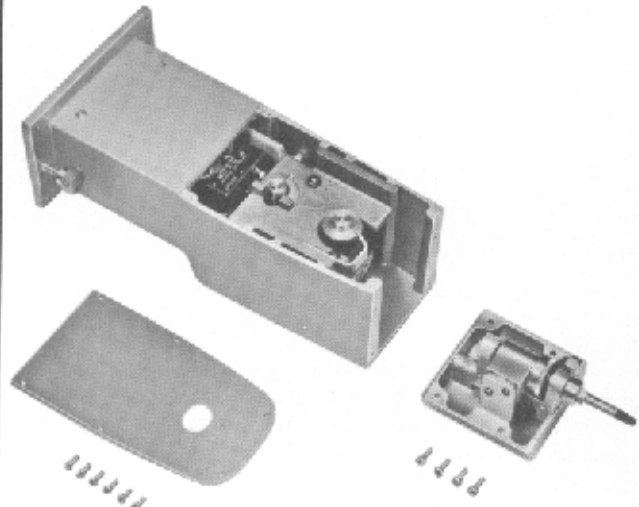

FIGURE 28
- b. Disassemble the take-up reel assembly as shown in figures 28 and 29.